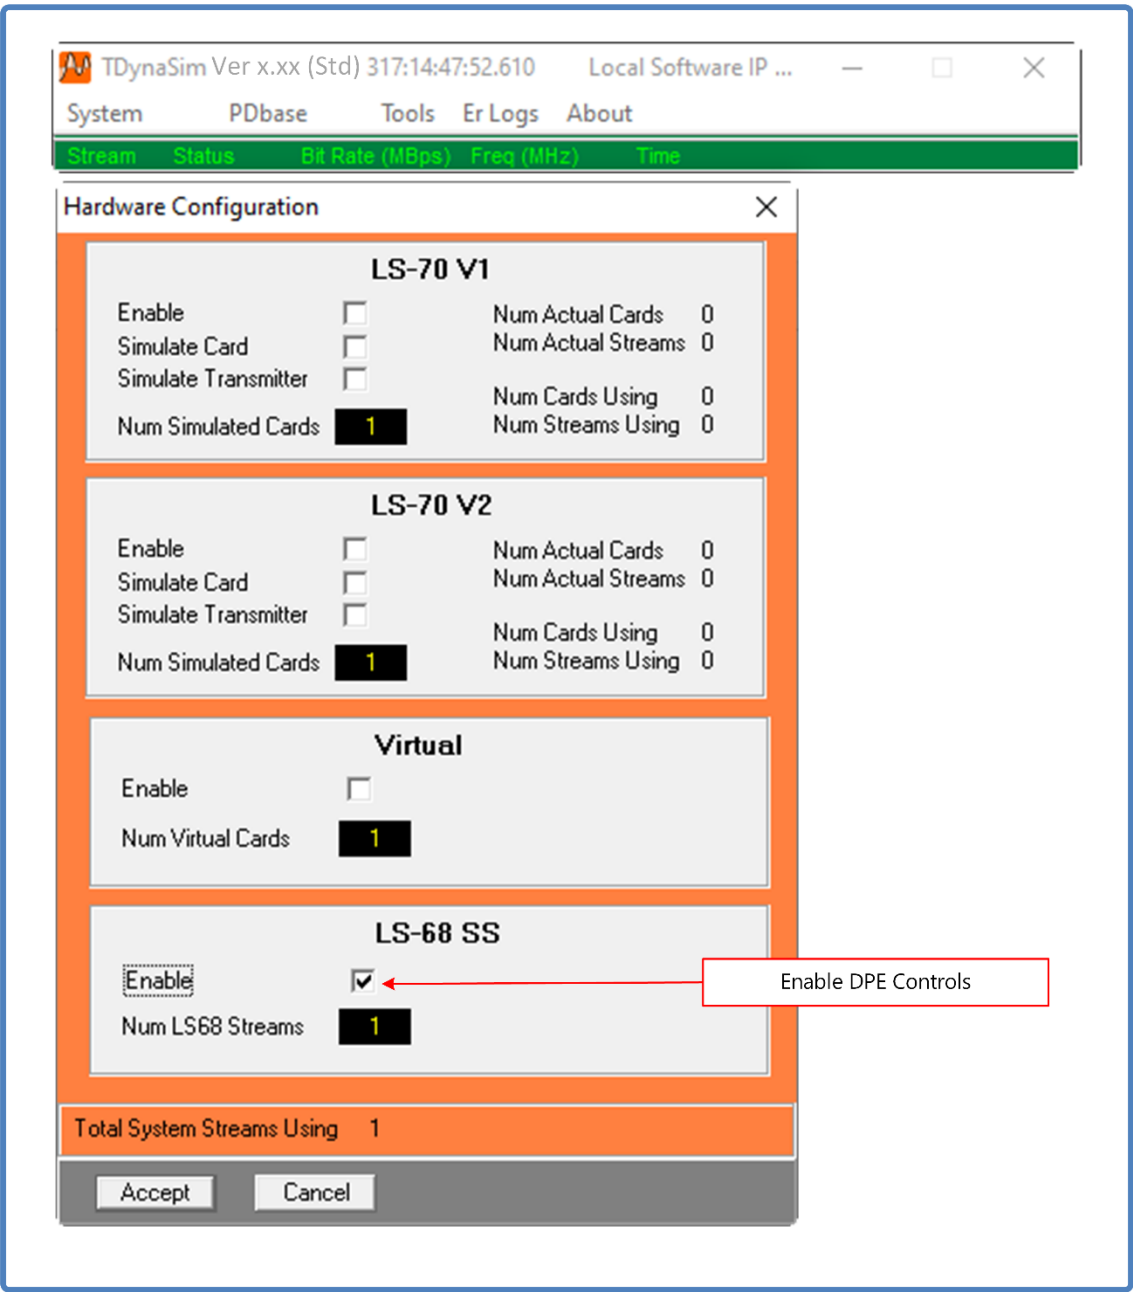

Figure 5-6 TDynaSim Initiation – Hardware selections
- 2.) Ensure that the TDynaSim application is launched. Once the application is launched the first time, hardware configuration options must be selected. Reference Figure 5-6 for the startup options screens.